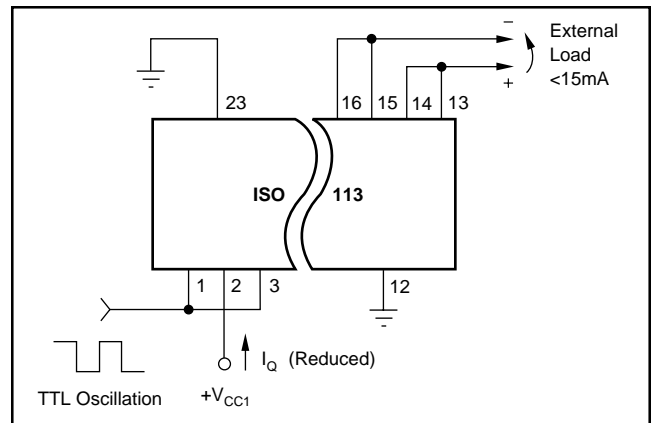

FIGURE 5. Reduced Power Dissipation.
Single or multichannel synchronization with reduced power dissipation for applications requiring less than  $\pm 15mA$  from  $V_{CC1}$  is accomplished by driving both the Sync input pin (3) and Enable pin (1) with the TTL oscillator as shown in Figure 5.